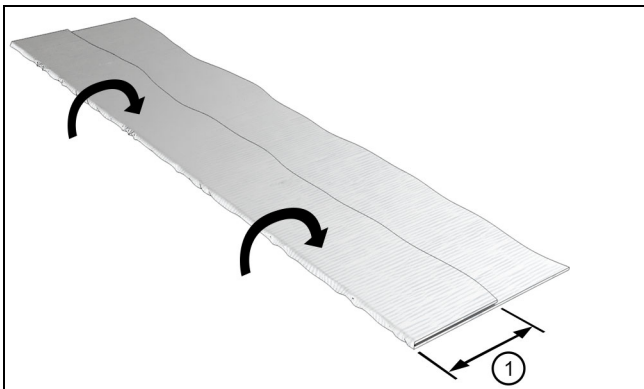

Figure 14
3. Fold the material at the seam of the release paper on the 3" (76) crease. See Figure 14.